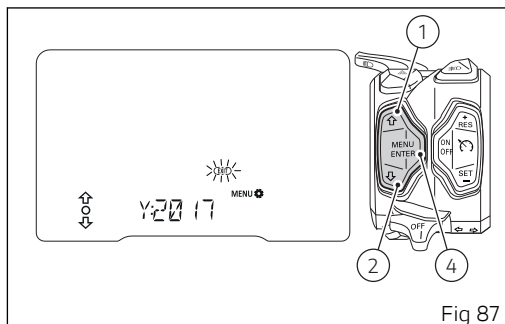

Fig 87
When entering this function, the instrument panel will display the current year within the Menu, as well as the EXIT item selected with flashing frame (Fig 87). Press button (4) to go back to the main screen of the SETTING MENU.